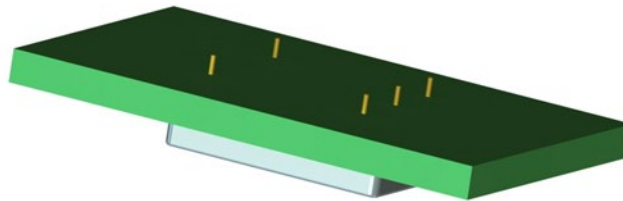

Figure 2
3. Position correctly. The trimming block and product should be placed upside down, with pins up, on a firm, ESD-safe surface that will keep the product and fixture from sliding. High quality flush cutters should be used to trim the leads even with the surface of the trimming block. See Figure 2.